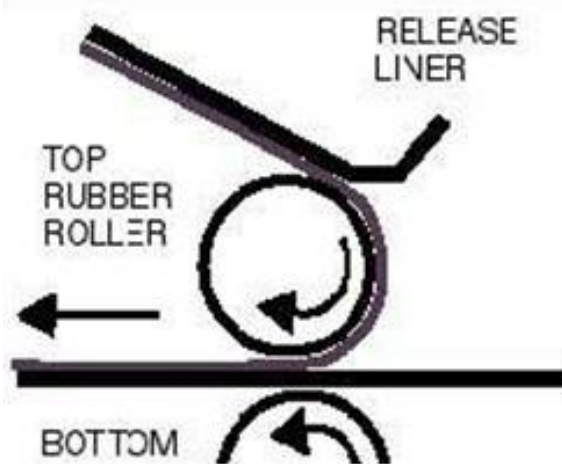

Figure 1
4. Drape the remaining sheeting over the top roll and peel back the remaining portion of the release liner, while feeding in the remainder of the sign blank (See Figure 1).